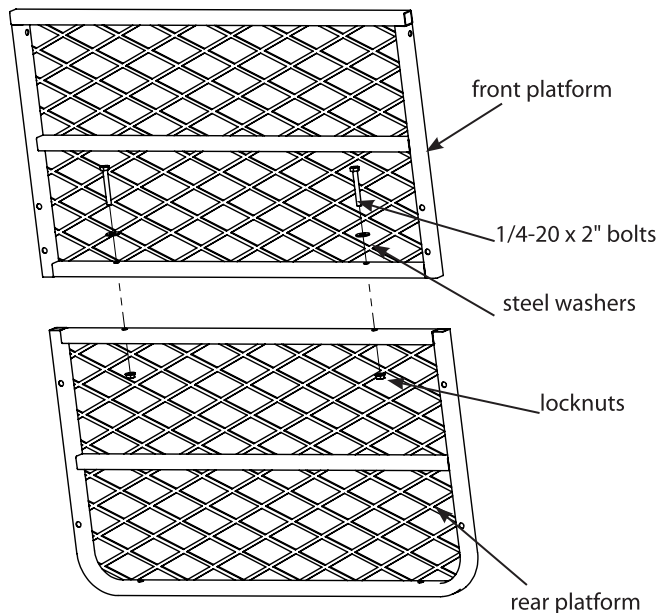

Figure 1
1. Attach the front platform (410083) and the rear platform (410086) together using (2) provided 1/4-20 x 2" bolts, locknuts and steel washers. **SEE FIGURE 1. DO NOT tighten all nut and bolt assemblies completely!**